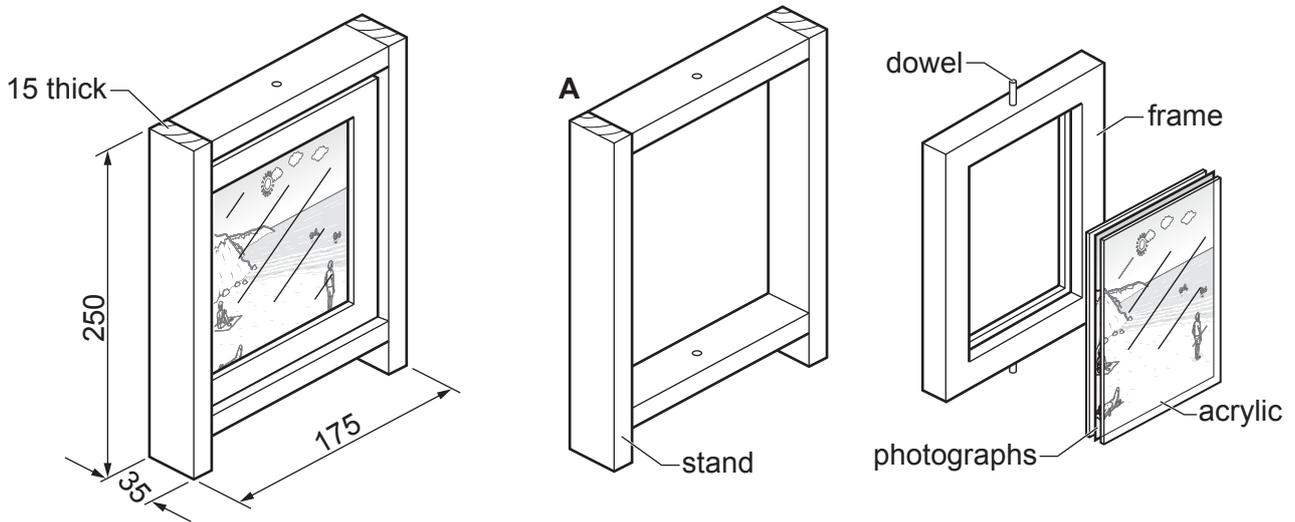
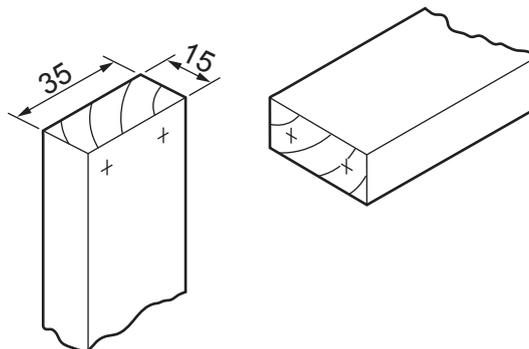

Fig. 11.1
Fig. 11.4
- 11** Fig. 11.1 shows views of a photograph frame held in a stand. The frame is made from MDF. The stand is made of hardwood. The frame can be made to rotate inside the stand to show two photographs.
(e) Fig. 11.4 shows the positions for the dowel joint at corner **A** shown in Fig. 11.1.